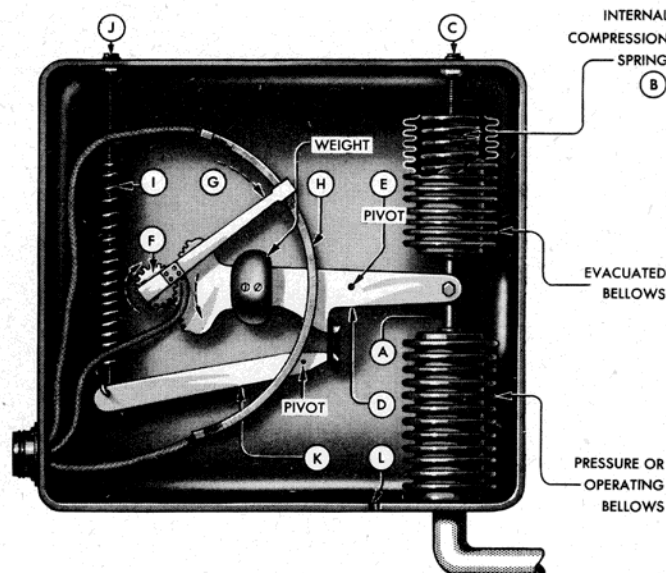

Figure 154—Pressuretrol
1. GENERAL.—Four pressuretrols, one in each nacelle, are the primary automatic controls. The pressuretrol measures the carburetor air inlet pressure, which is a determining factor of engine manifold pressure. The pressuretrol, as can be seen in figure 154, consists of an evacuated bellows vented by a 1/4-inch hose to the air duct at the carburetor air inlet and connected through a sector lever and pinion to a wiper contact on the voltage divider potentiometer. The operating or pressure bellows and the evacuated bellows are rigidly fastened together by the cross-member "A". The lower end of the pressure bellows is fastened to the bottom of the case, and the interior is vented to the induction system through a pipe connection on the bottom of the case. The upper end of the evacuated bellows is anchored by adjustment screw "C". The internal spring "B" prevents atmospheric pressure from collapsing the bellows. The evacuated bellows has exactly the same cross-sectional area as the operating bellows, so atmospheric pressure changes will affect both equally, and since they are arranged to oppose each other, the atmospheric change is cancelled out or neutralized. The upper bellows is evacuated so that temperature changes will not produce pressure changes in the interior. The weight attached to arm "D" serves to dampen out any minor pressure surges which may occur in the induction system, and to balance the bellows assembly against accelerating forces and vibration. A vent "L" is provided to permit atmospheric pressure